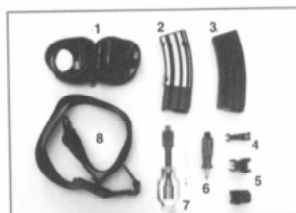

Fig. 94
1. Cleaning Kit (Fig. 94/1)
2. Blank Firing Safety Magazine (Fig. 94/2)
3. HK High reliability 30-rd steel magazine (Fig. 94/3)
4. Folding Front Sight (Fig. 94/4)
(for 10" and 14.5" + 16.5" Barrels (Fig. 94/5))
6. HK Sight Adjustment Tool (Fig. 94/6)
(Fig. 94/7)
450) (Fig. 94/8)